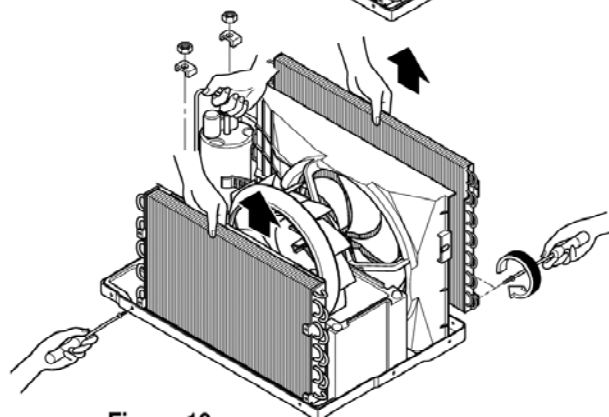

Figure 19
9. Remove 1 screw that secures the evaporator to the base pan. (See Figure 19)